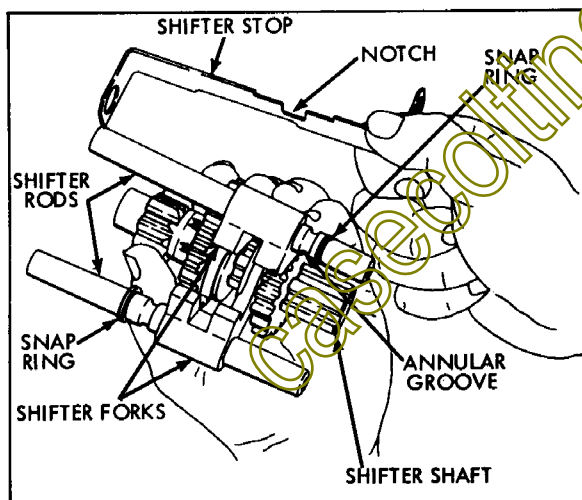
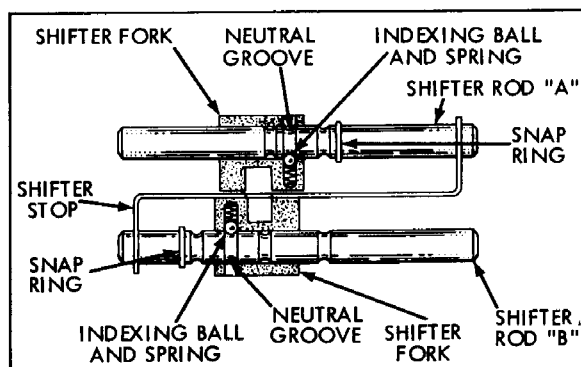
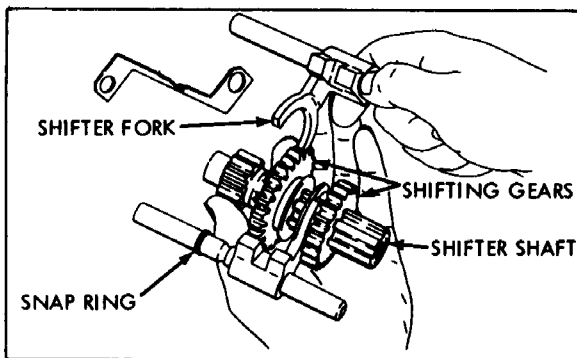
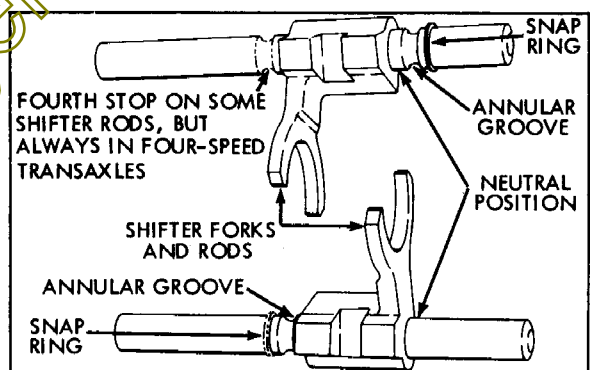

Figure 3-8
Figure 3-10
Figure 3-12
Figure 3-14
Follow the illustrations in order. Figure 3-8, 3-7, 3-6, 3-5, 3-4, 3-3. Prior to disassembly compare the assembly with the illustrations. This will aid during the reassembly.
- a. Replace the shifter stop if worn or damaged. (Fig. 3-8)
a. Reassemble the shifting assembly by following the illustrations beginning with Figure 3-8 through 3-13. Pay particular attention to Figure 3-10 during the reassembly of the shifter forks and shifter rods. Lay the parts on the bench in the same manner as illustrated in Figure 3-10 on a clean paper or shop cloth. Pay particular attention to the annular grooves in the shifter rods and the snap ring.
3. Move the shifting fork to the Neutral position. The neutral groove is the center groove. This neutral groove can be seen through the hole in the shifter fork. See Figure 3-10, the arrow from the words "Neutral Groove" is passing through the hole for viewing.
- c. When assembling the shifter fork and rod to the flanged gears on the shifter shaft, Figure 3-12, that shifter fork which is on shifter rod "A" always engages in flange in the larger gear. To determine which is shifter rod "A" compare the parts to illustrations. Figure 3-10. Hold the shifter shaft in the hands as illustrated (Figure 3-14) during assembly.
- d. After the shifter fork and rod assemblies have been engaged with the flanged gears allow the shifter rods to lay open in the hand and position the shifter stop. (Figure 3-8.) The notch in the shifter stop is the guide for correct positioning. Align this